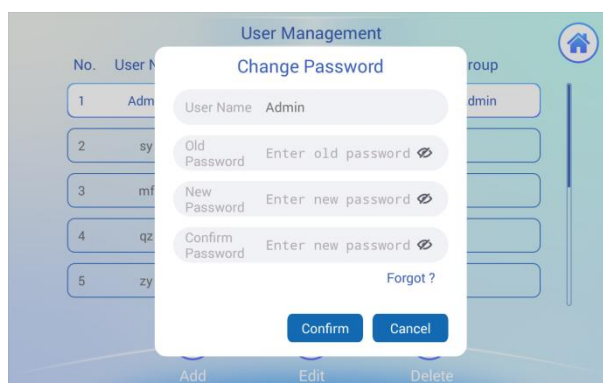
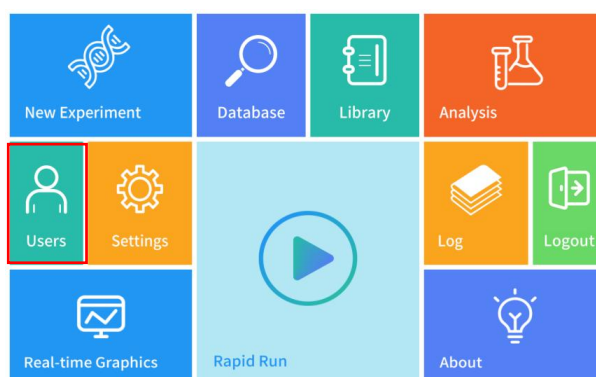

Fig. 4.3
Fig. 4.4
It is required to change the password immediately after the initial login to ensure account security. To change the password, click "**Users**" on the main interface (Fig. 4.4), select the Admin account from the list. Click "**Edit**" at the bottom center of the screen to modify the password as shown in Fig. 4.3.
- 1) To add a new user, click "**Users**" on the main interface (see Fig. 4.4).